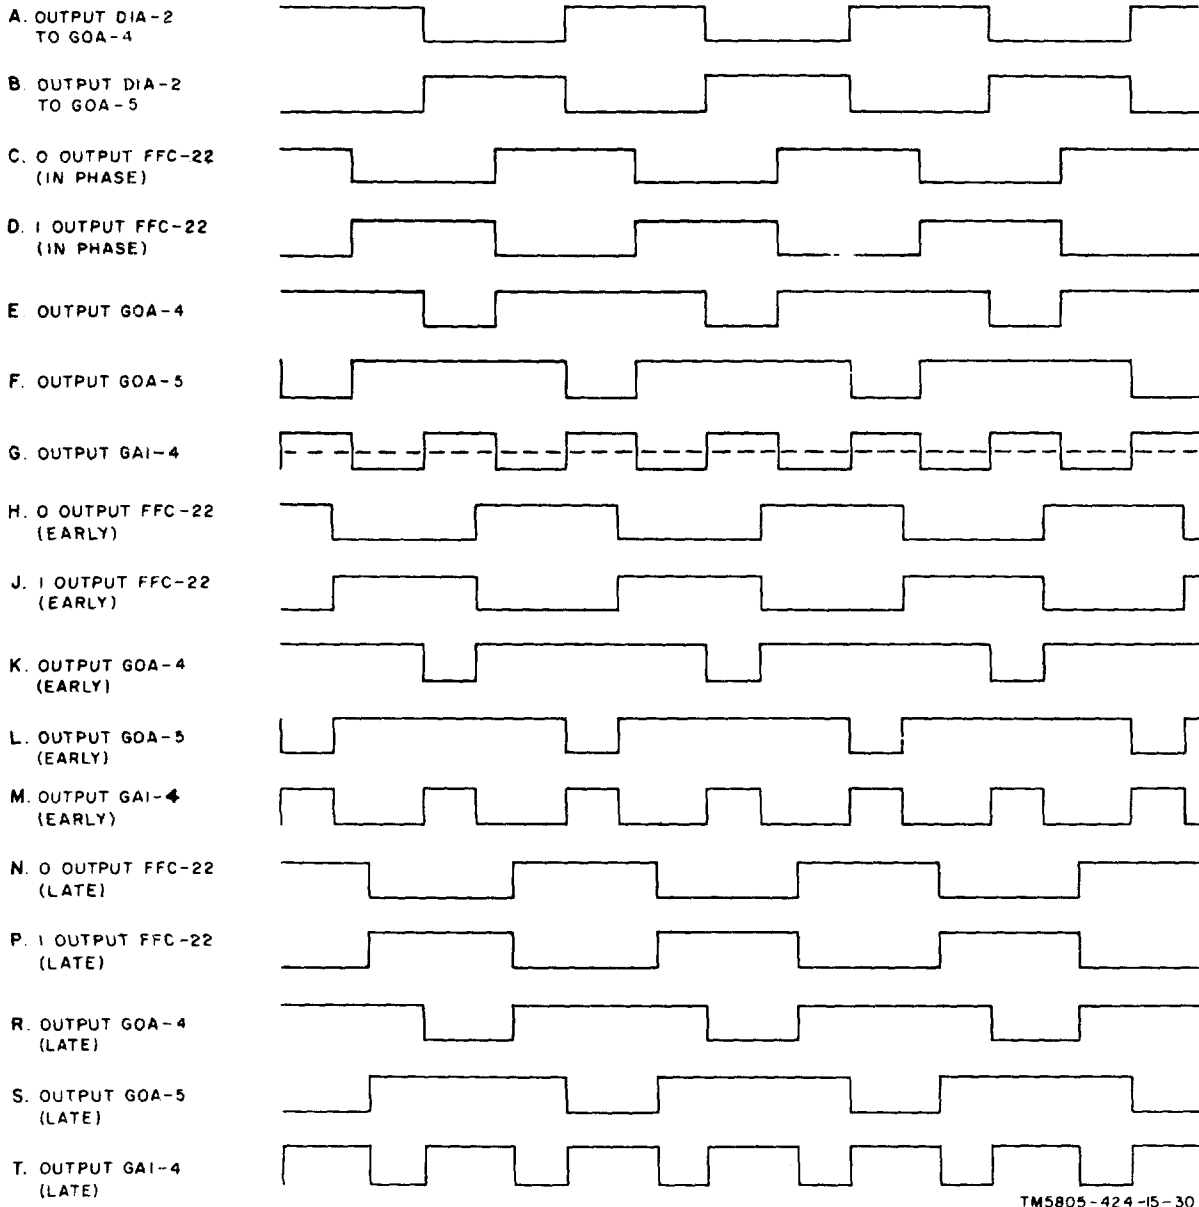

Figure 5-8. Phase-lock loop, timing waveforms.
(2) The VCO provides a bit-timing signal from the 128 divider-A module, 90° out of phase with the incoming bit-timing signal. In this case, the VCO frequency is phase locked to a frequency that provides a clock signal (to the 128 divider-A module) exactly 128 times the incoming bit-timing signal. If the VCO frequency is not correct, its frequency is appropriately adjusted by OR gates GOA-4 and GOA-5 and AND gate GAI-4 (which together make up an exclusive OR circuit).
(3) Assuming the in-phase condition, the input bit-timing signal is applied to differential amplifier DIA-2, providing two outputs (A and B, fig. 5-8). The generated bit-timing signal from the 0 output of FFC-22 (fig. 8-5) in the 128 divider A module (C, fig. 5-8), with an output from differential amplifier DIA-2 (A, fig. 5-8), produces a negative output from GOA-4 (E, fig. 5-8) whenever the two inputs (A and C, fig. 5-8) are negative and in coincidence. Output of GOA-5 is also negative whenever its two inputs (B and D, fig. 5-8) are negative and in coincidence. Output of GOA-4 and GOA-5 are applied to AND gate GAI-4 which required two positive inputs (E and F, fig. 5-8) to provide a negative output. The resultant output from GAI-4 (G, fig. 5-8) is twice the bit-rate and is symmetrical, resulting in a constant average dc voltage that is applied to maintain the VCO frequency in phase.
(a) If the VCO were not in phase with the input timing signal, the output of FFC-22 (C, fig. 5-8) in the 128 divider-A module (bit-timing) would not be exactly 90° out of phase with the input timing signal. Waveforms H and J, figure 5-8, indicate a generated bit-timing signal that is early with respect to the input bit-timing signal (A and B, fig. 5-8). Because of the coincidence required by GOA-4, GOA-5, and GAI-4 (described above), the output of GAI-4 (M, fig. 5-8) is no longer symmetrical, resulting in application of a lower
- (b) Waveforms N and P, figure 5-8, indicate a generated bit-timing signal that is late with respect to the bit-timing input (A and B, fig. 5-8). This results in the output of GAI-4 (Q, fig. 5-8) being positive longer than it is negative, resulting in a higher average